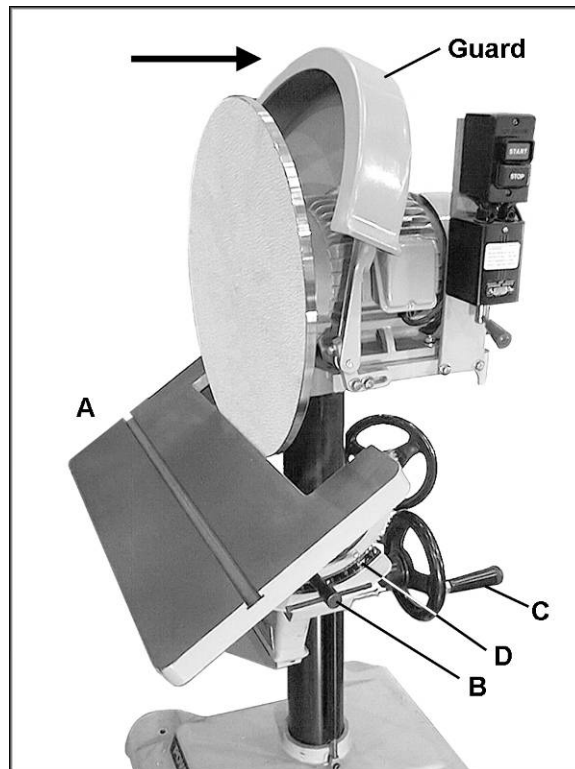

Figure 5
2. Lower the table all the way and push back the guard (refer to Figure 5).
The work table (A, Figure 5) can be tilted 30 degrees forward and 45 degrees backward.
1. Loosen the handle (B, Figure 5) and rotate the handwheel (C, Figure 5) clockwise to tilt table backward, and counterclockwise to tilt table forward. The pointer on the trunnion scale (D, Figure 5) indicates the angle.
2. When table is positioned, re-tighten handle (B, Figure 5).
1. Lower the table as far as possible, and push back the guard. See Figure 5.